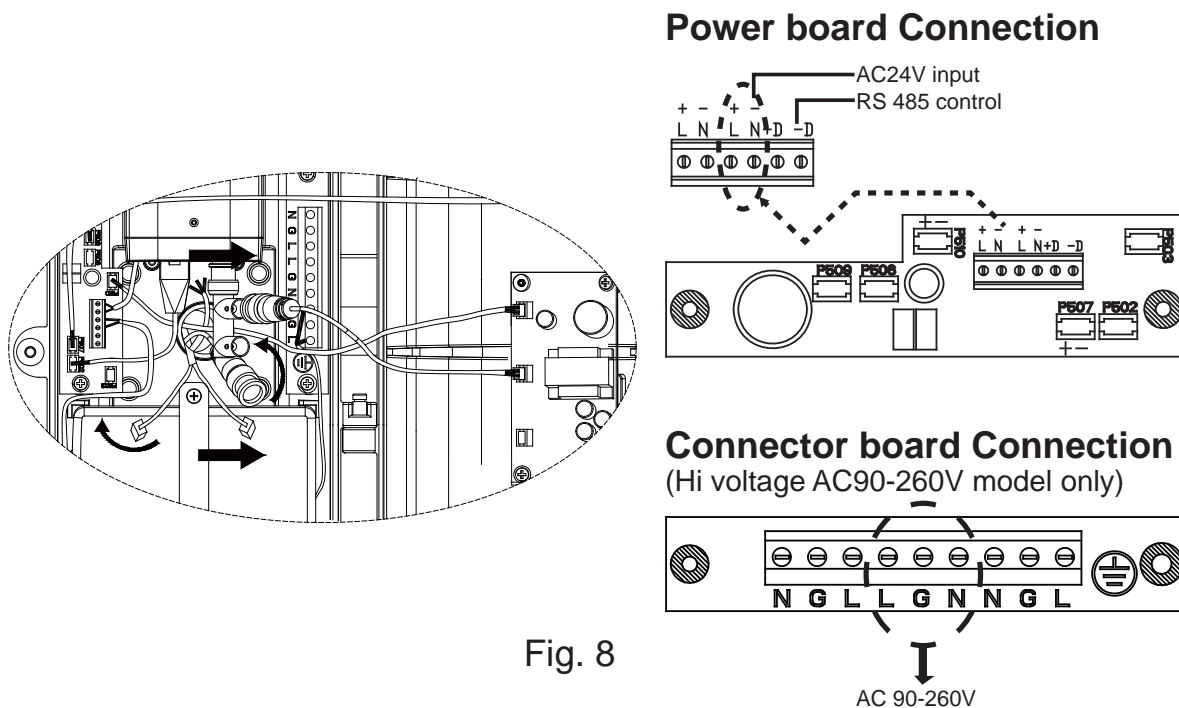

Fig. 8
- 3.4 Plug and fix the power cable to the terminal and plug the video cable to video output of the camera (Fig 8).